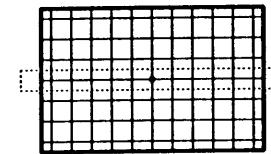

FIG. 14
26. Adjust RJ67 (TILT) and RJ71 (BOW) concentrating on the center horizontal line and converge the blue line on to the green. See Fig. 14.